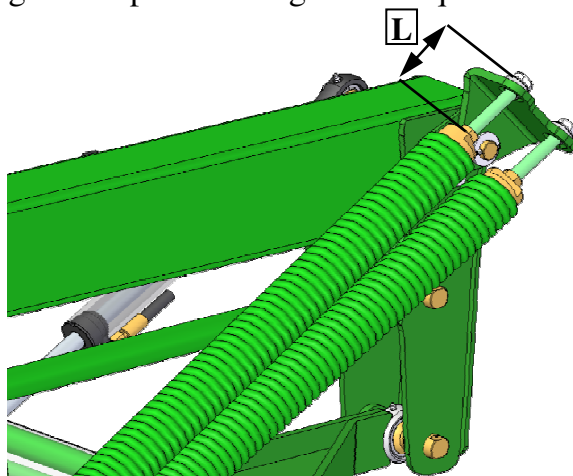

Fig. 27. Support springs (adjusting spring tensioning)
- ❑ To reduce pressure of the cutterbar on the ground, at the same time it is required to increase tensioning of the springs by tightening the screw (reducing the distance **L** between the screw head and spring catch – **Fig. 27**).
- ❑ Increase in pressure of the cutterbar on the ground is caused by reduction in tensioning of support springs, and this is done by unscrewing the screw (increasing the distance **L** between the screw head and spring catch – **Fig. 27**).